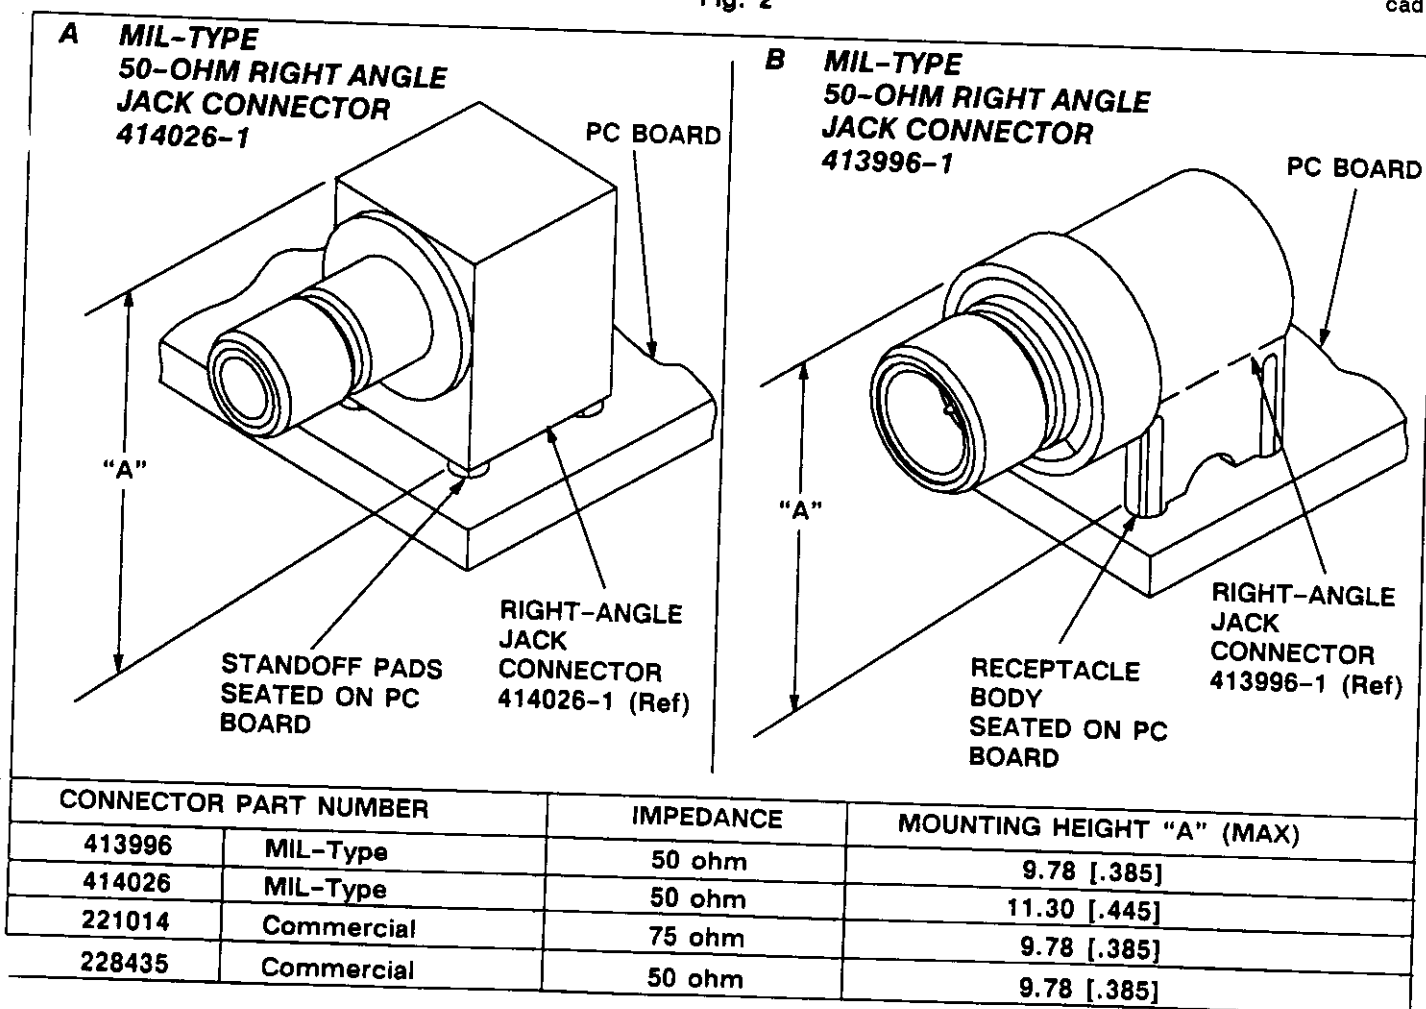

Fig. 3
3. Insert the ground posts into the pc board until the standoff pads are seated on the pc board. See Figure 3, A.
Since there are no standoff pads on MIL-Type 50-Ohm right-angle jack connector 413996, the receptacle body must be seated on the pc board, as shown in Figure 3, B.